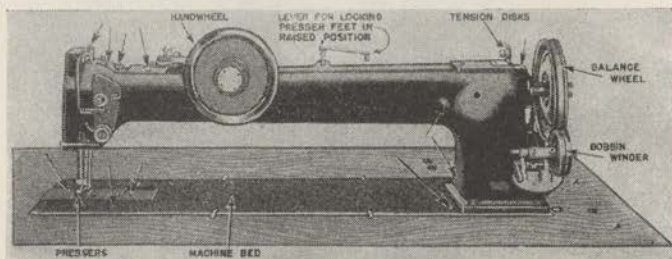
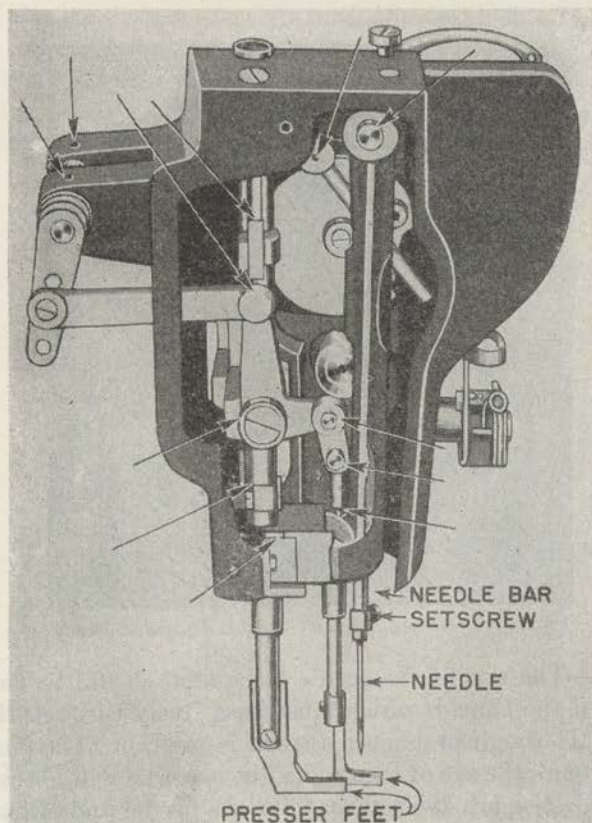

FIGURE 86.—Front view of machine showing oiling points.
FIGURE 88.—End view of machine, with faceplate removed, showing oiling points.
19. Sewing machine.—The new sewing machine used by the Army (fig. 86) is a single-needle, lock-stitch machine with compound feed and high-lift alternating pressure designed especially for automobile upholstery, tarpaulins, and similar work. It has a high arm with a working space of 30 inches at the right of the needle. On the front of the machine is a handwheel which, when pressed in, turns the balance wheel, thereby making it unnecessary to reach for the balance wheel. An unwinder, on which two spools of thread are placed, is used with large machines. Instructions for using the machine are given in this manual. Instructions for adjustment and repair are given in the manufacturer's manual.
b. Lubrication.—When the machine is received from the factory, clean and oil it thoroughly. If used continuously, it should be oiled at least twice a day at each of the places designated in figures 86 to 90, inclusive, by arrows without nomenclature.
(1) Loosen the thumbscrew in the upper end of the faceplate, turn it upward, and oil the wick and bearings which are thus uncovered (fig. 88), then turn down the faceplate and tighten the thumbscrew.
e. To set needle.—Turn the balance wheel over toward the body by means of the handwheel (fig. 86) until the needle bar (fig. 88) moves up to its highest point; loosen the setscrew in the needle bar and put the needle up into the bar as far as it will go, with its long groove toward the left and its eye opening toward the ends of the machine; then tighten the setscrew.
j. To raise or lower presser feet.—To raise the presser feet, depress the treadle; to lock them in the raised position, move the lever indicated in figure 86 all the way to the left. A slight pressure on the treadle will automatically release the locking device.